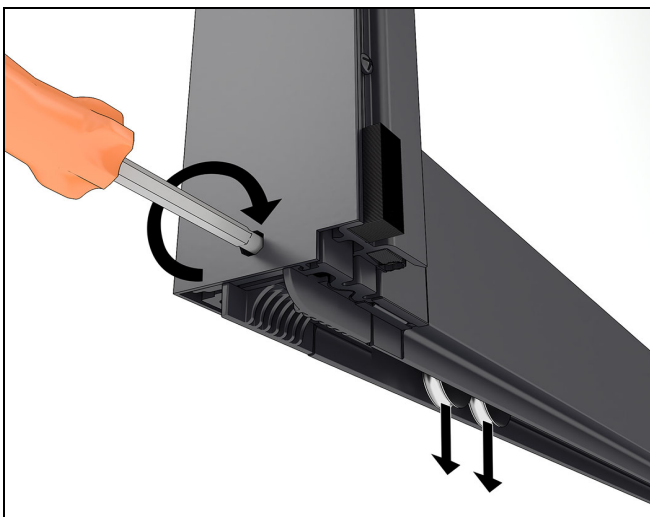
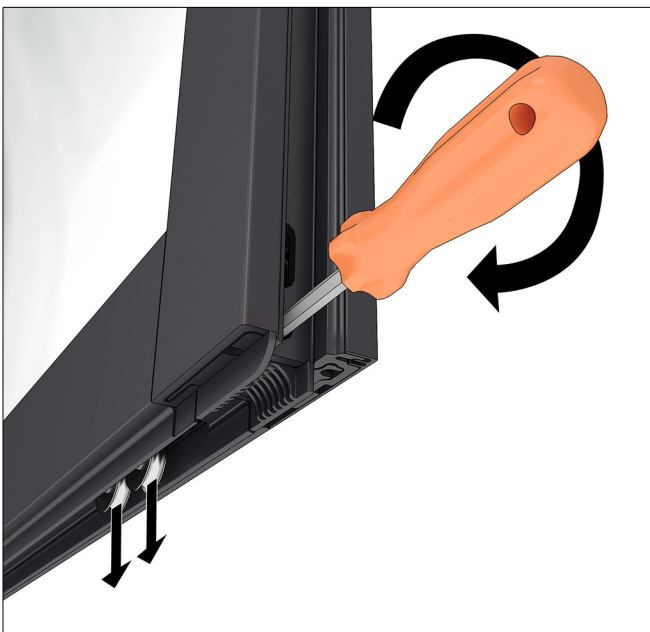

Figure 141
Figure 142
5. Insert a 5mm hex wrench into the adjustment hole(s) and raise or lower the rollers accordingly. Rotate the adjustment screw clockwise to raise the panels. See Figure 141 and Figure 142.